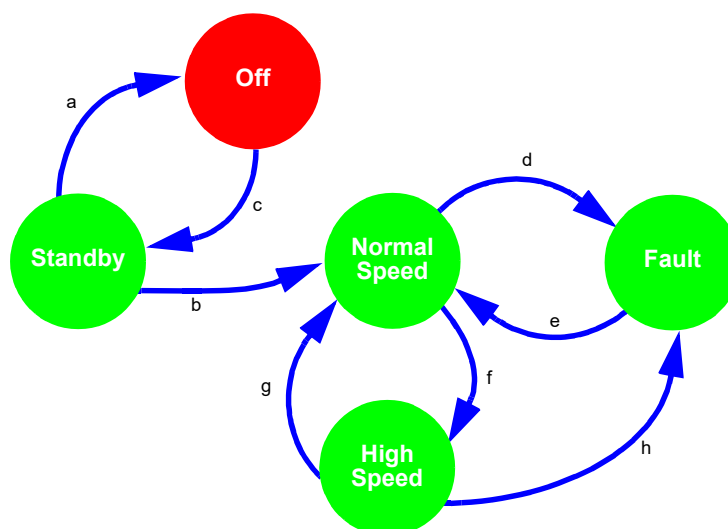
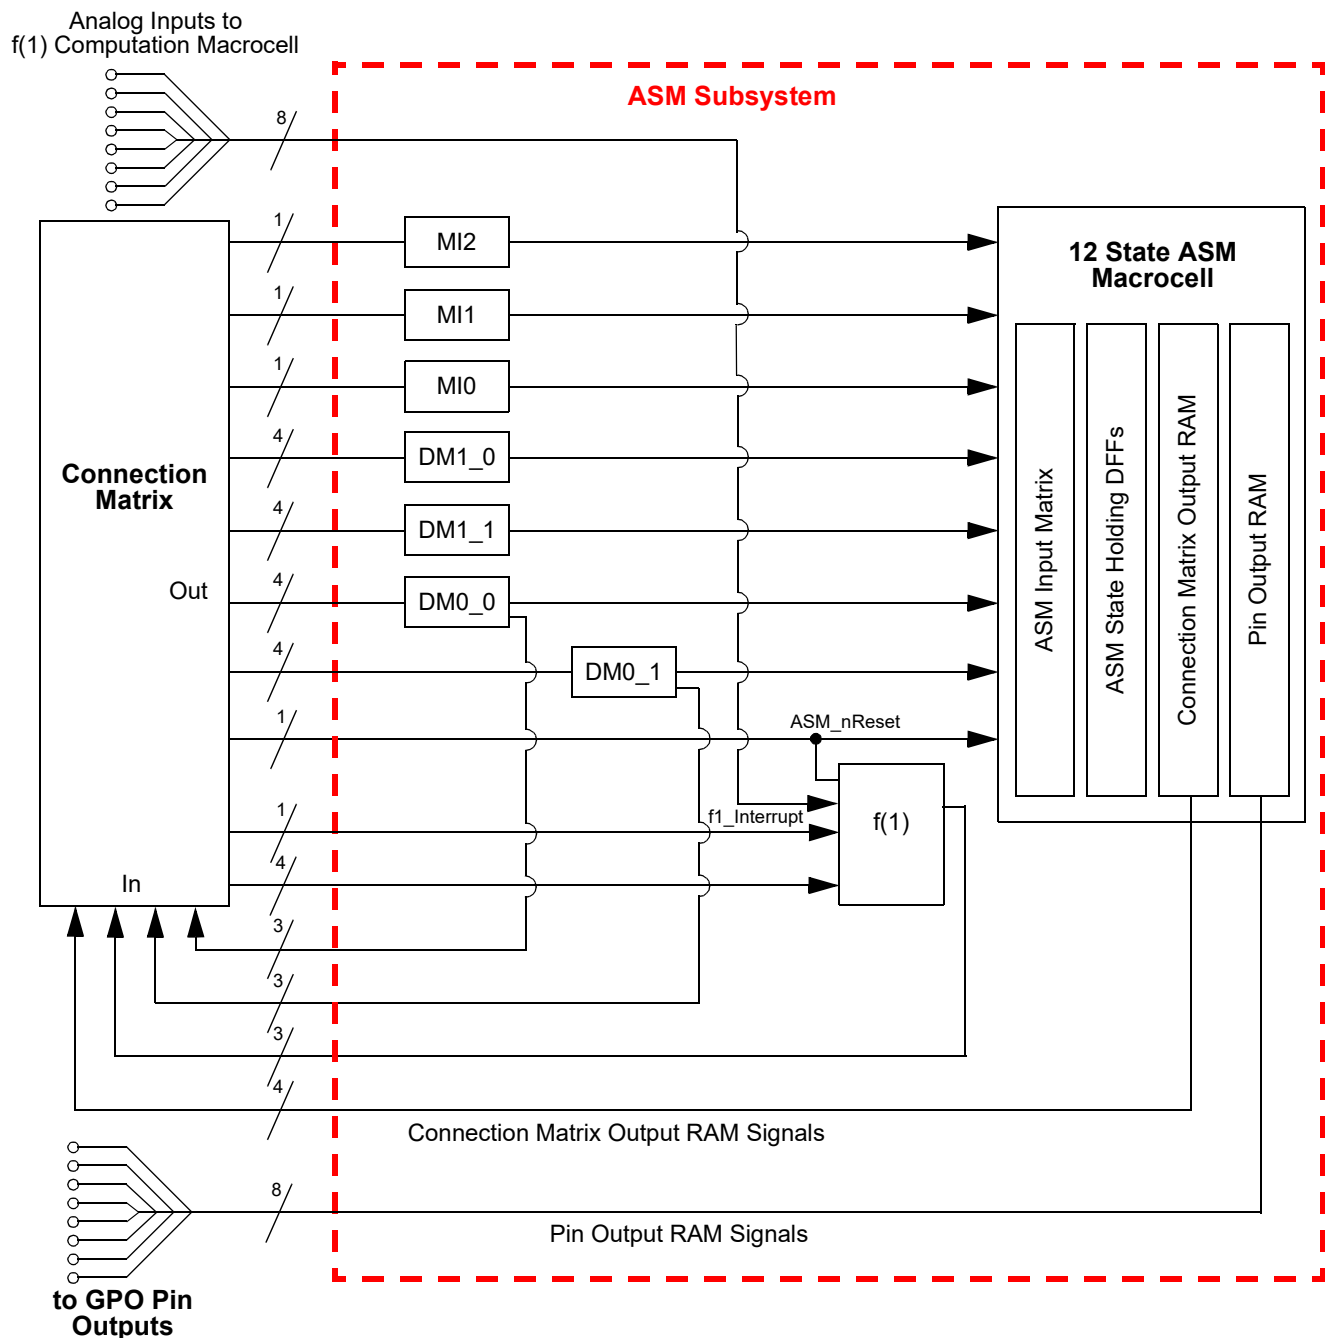

Figure 96: Asynchronous State Machine State Transitions
Figure 97: Connection Matrix to ASM Subsystem
The Asynchronous State Machine (ASM) Subsystem is designed to allow the user to create state machines with between 2 to 12 states. The user has flexibility to define the available states, the available state transitions, and the input signals (a, b, c ...) that will cause transitions from one state to another state, as shown in Figure 96.
- Dynamic Memory (DM) Macrocells – Section 16.
- f(1) Computation Macrocell – Section 17.
- Matrix Interface (MI) Macrocells Section 18.
The ASM Subsystem has a total of 25 digital input signal lines, as shown in Figure 97, which all come from the Connection Matrix outputs. Of these 25 digital input signals, 3 are user selectable inputs going directly from the Connection Matrix to the three Matrix Interface (MI) macrocells. There are a total of 16 input signals that go to the DMx_x macrocell, four per macrocell. There is 1 ASM_nReset input that is for driving a state transition in both the ASM macrocell and the f(1) Computation Macrocell to an Initial/Reset state. It is possible to use one macrocell only (MI or DM) for state to state transitions. There are 4 digital input signals coming from the Connection Matrix to the f(1) Computation Macrocell. There is also 1 dedicated Interrupt input signal to the f(1) Computation Macrocell that will halt any active operations and transfer control back to the ASM macrocell.
The ASM Subsystem has a total of 21 digital output signal lines, as shown in Figure 97, There are a total of 4 output signals which go to the Connections Matrix inputs, and from there can be routed to other internal macrocells or pins. The 4 outputs are user defined for each of the possible 12 states. There are a total of 8 output signals which go directly to the 8 GPOs. The 8 outputs are user defined for each of the possible 12 states. Each of the three macrocells, DM0_0, DM0_1 and f(1) have three output signals that go to the Connection Matrix.
The GPAK Designer development tools support user designs for the ASM Subsystem at both the physical level and logic level. Figure 96 is a representation of the user design at the logical level, and Figure 97 shows the physical resources inside the various macrocells in the ASM Subsystem. To best utilize this subsystem, the user must develop a logical representation of their desired state machine, as well as a physical mapping of the input and outputs required for the desired functionality.